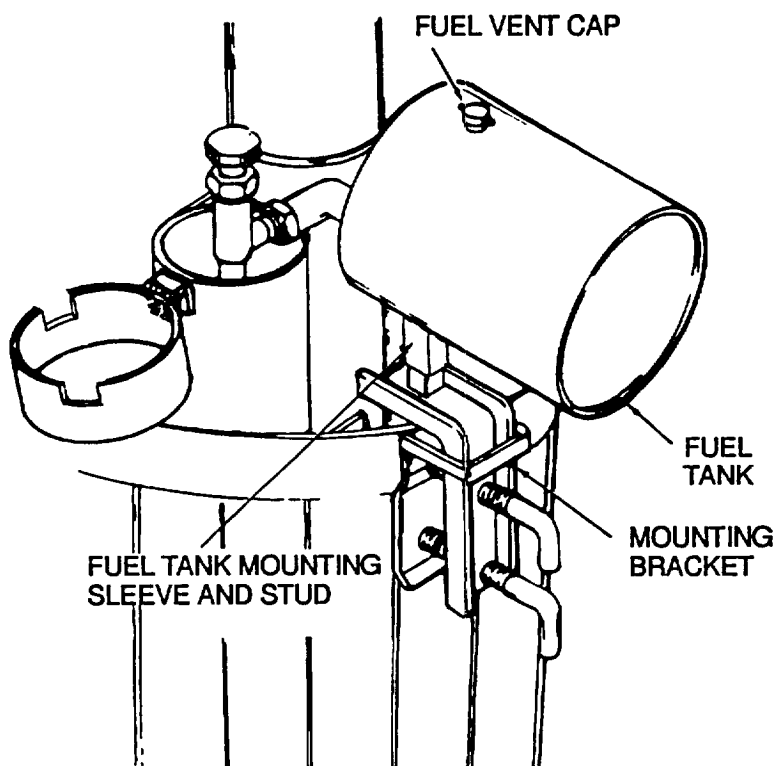

Figure 3-1. Immersion Heater Fuel Tank Filling Procedure
- a. Remove the fuel tank from the heater by lifting the fuel tank off square mounting stud on heater mounting bracket (Figure 3-1).
- c. Replace the filler plug and place the fuel tank over the square mounting stud on the heater mounting bracket (Figure 3-1).
- (1) Lift fuel tank off square mounting stud on heater mounting bracket (Figure 3-1).
- (2) Turn the heater upside down so that any accumulation of fuel or water in the combustion chamber can drain out.
- (3) Reinstall burner inside heater body.
- (4) Position fuel tank on the square mounting stud on the heater mounting bracket.
- (5) Reinstall smokestack.